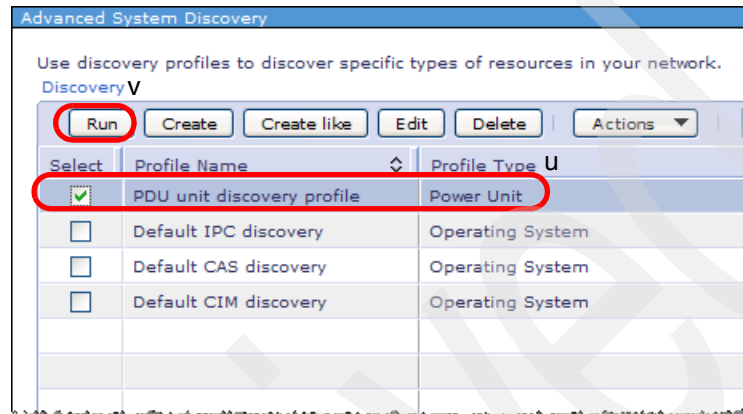

Figure 5-22 Advanced System Discovery page
9. Select the new profile created in the Advanced System Discovery page, shown at **1** in Figure 5-22. Click **Run** (at **2**) to execute the selected profile.